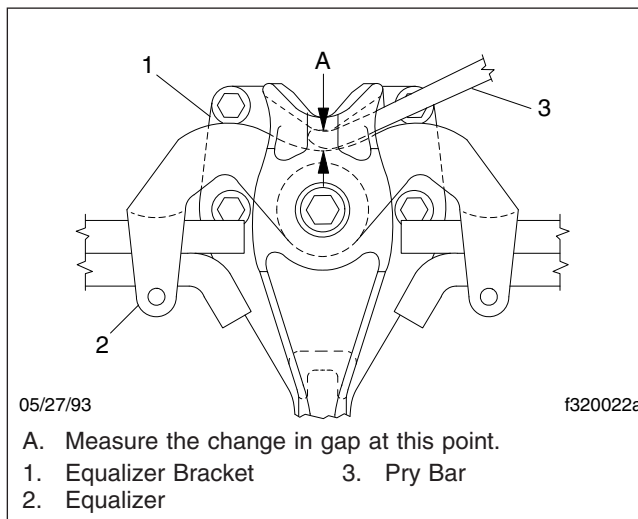

Fig. 4, Side View of the Equalizer
6. Block up the frame enough to take chassis weight off the springs. Attempt to move the equalizer up and down, using a pry bar between the top of the equalizer and top of the equalizer bracket; apply hand pressure only. See **Fig. 4**. If movement at the center of the equalizer exceeds 1/8 inch (3 mm), replace the equalizer bushings. See **Group 32** of the *Century Class Trucks Workshop Manual* for instructions.